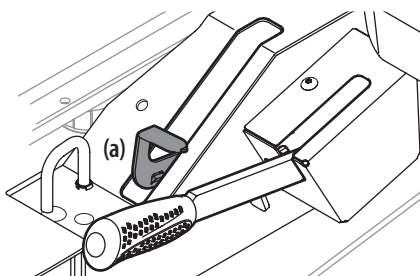

Figure 39
1. Engage the transmission bypass valves by pulling the bypass lever (a) upward and all the way back. See Figure 39.
2. To release the bypass lever (a), push the lever forward. See Figure 39.